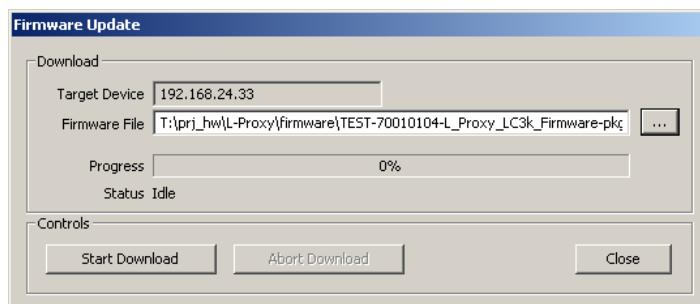

Figure 149: Firmware Update dialog of the L-Proxy Configurator.
6. This opens the Firmware Update dialog as shown in Figure 149. Click on the button “...” and select the firmware image (“lproxy\_lc3k\_3\_1\_0\_primary.dl”).